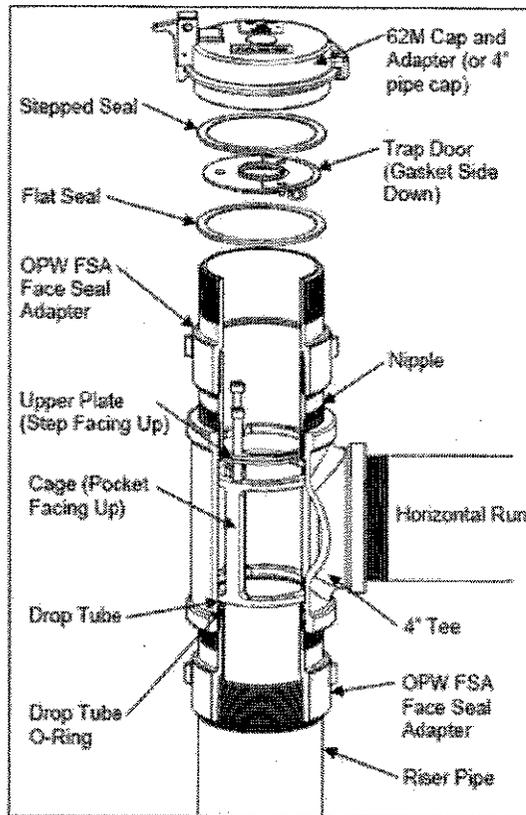

Figure 2
**Step 3: (See Figure 2)**
**Step 4: (See Figure 2)**
**Step 5: (See Figure 2)**
**Step 6: (See Figure 2)**
**Step 7: (See Figure 2)**
**Step 8: (See Figures 2 & 3)**
**Step 9: (See Figures 2 & 3)**